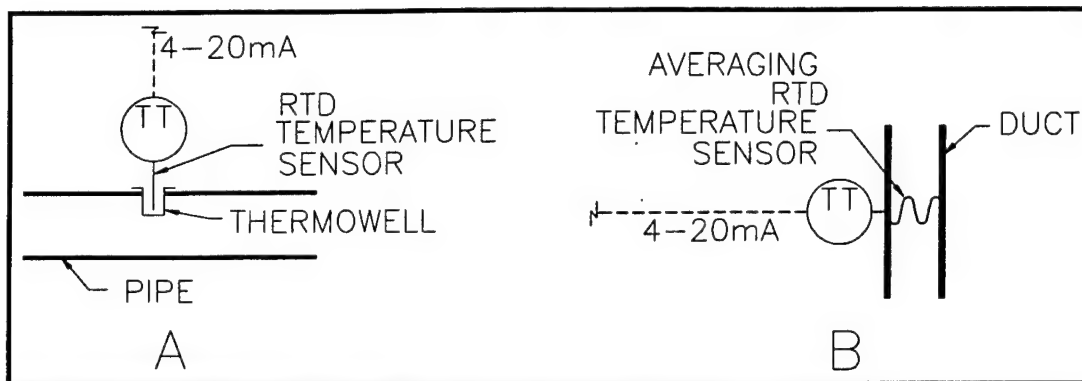

Figure 70. Input/output relationship of a typical temperature transmitter.
Figure 70 shows typical control schematic symbols for water temperature and duct air temperature sensors. In each case the temperature sensor is a platinum RTD and is connected to an integrally mounted temperature transmitter (TT) that provides a 4-20 mA output signal. In the duct application, the sensor is an averaging type element. Averaging elements should be used in applications where there is potential for stratification of the air stream as is the case on the downstream side of a coil and in mixed air temperature-sensing applications. Outside and return air temperatures usually can be measured adequately with a point-type sensor.